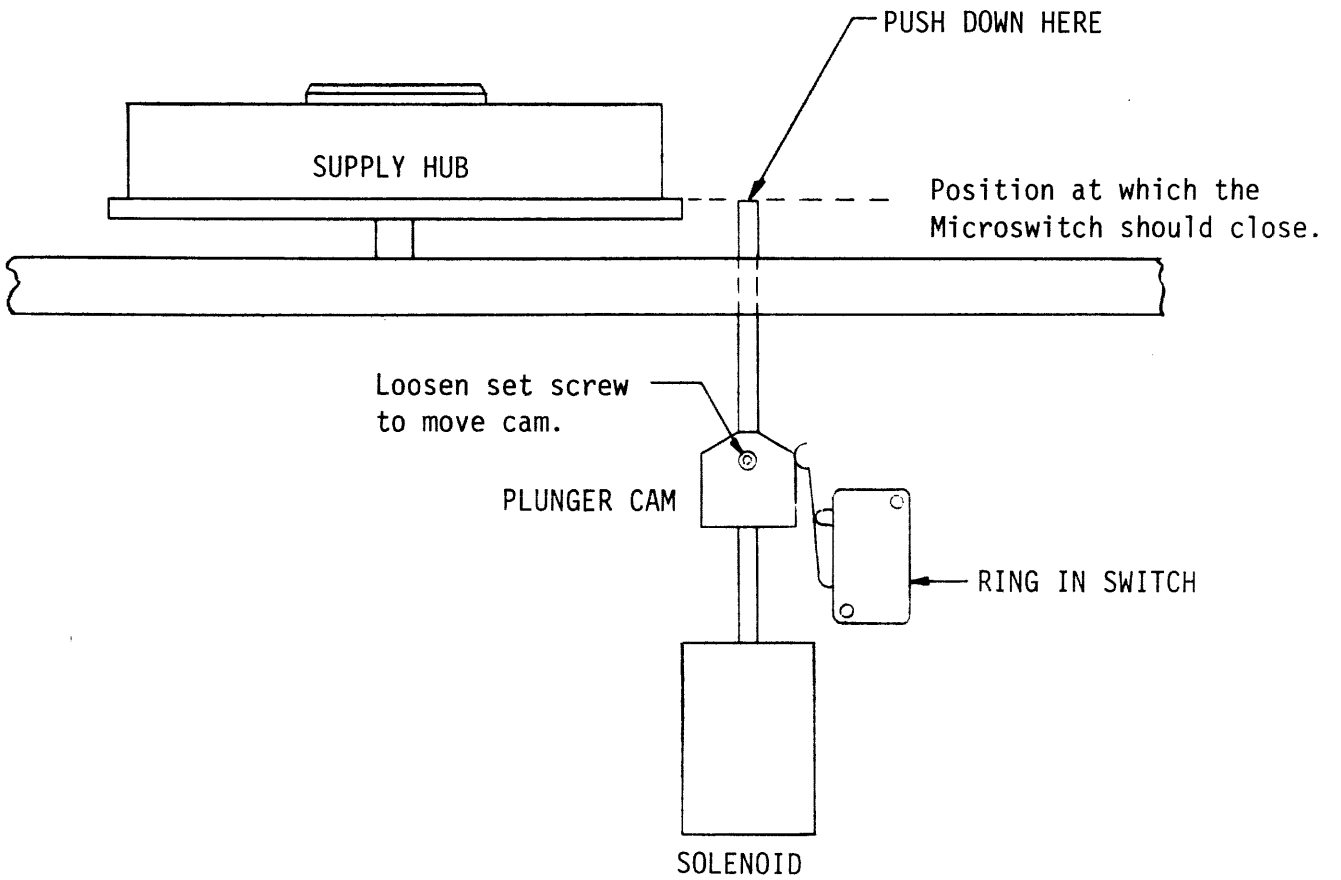

Figure 10-4, FILE PROTECT ASSEMBLY
- 3) Depress the protruding plunger. The meter should indicate a "short" at the inner lip of the supply hub. (See figure 10-4).